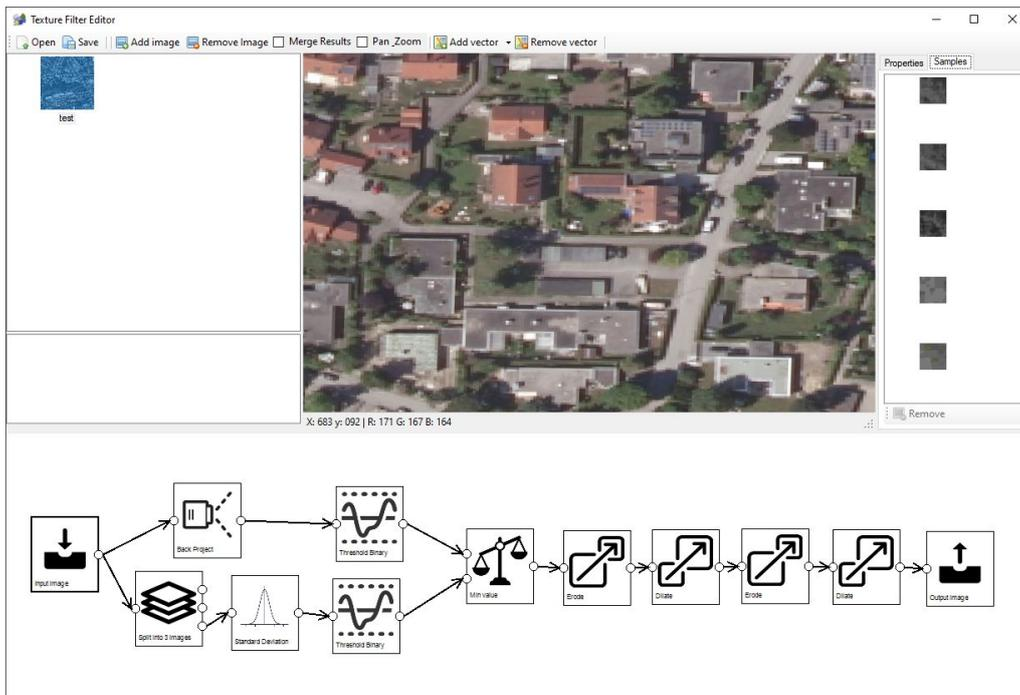

Figure 6.15: The input image for the vegetation detection
1. The input image to use, see Figure 6.15. Note that in the panel on the right the sample images of the vegetation that have been selected by dragging on the input image are shown.